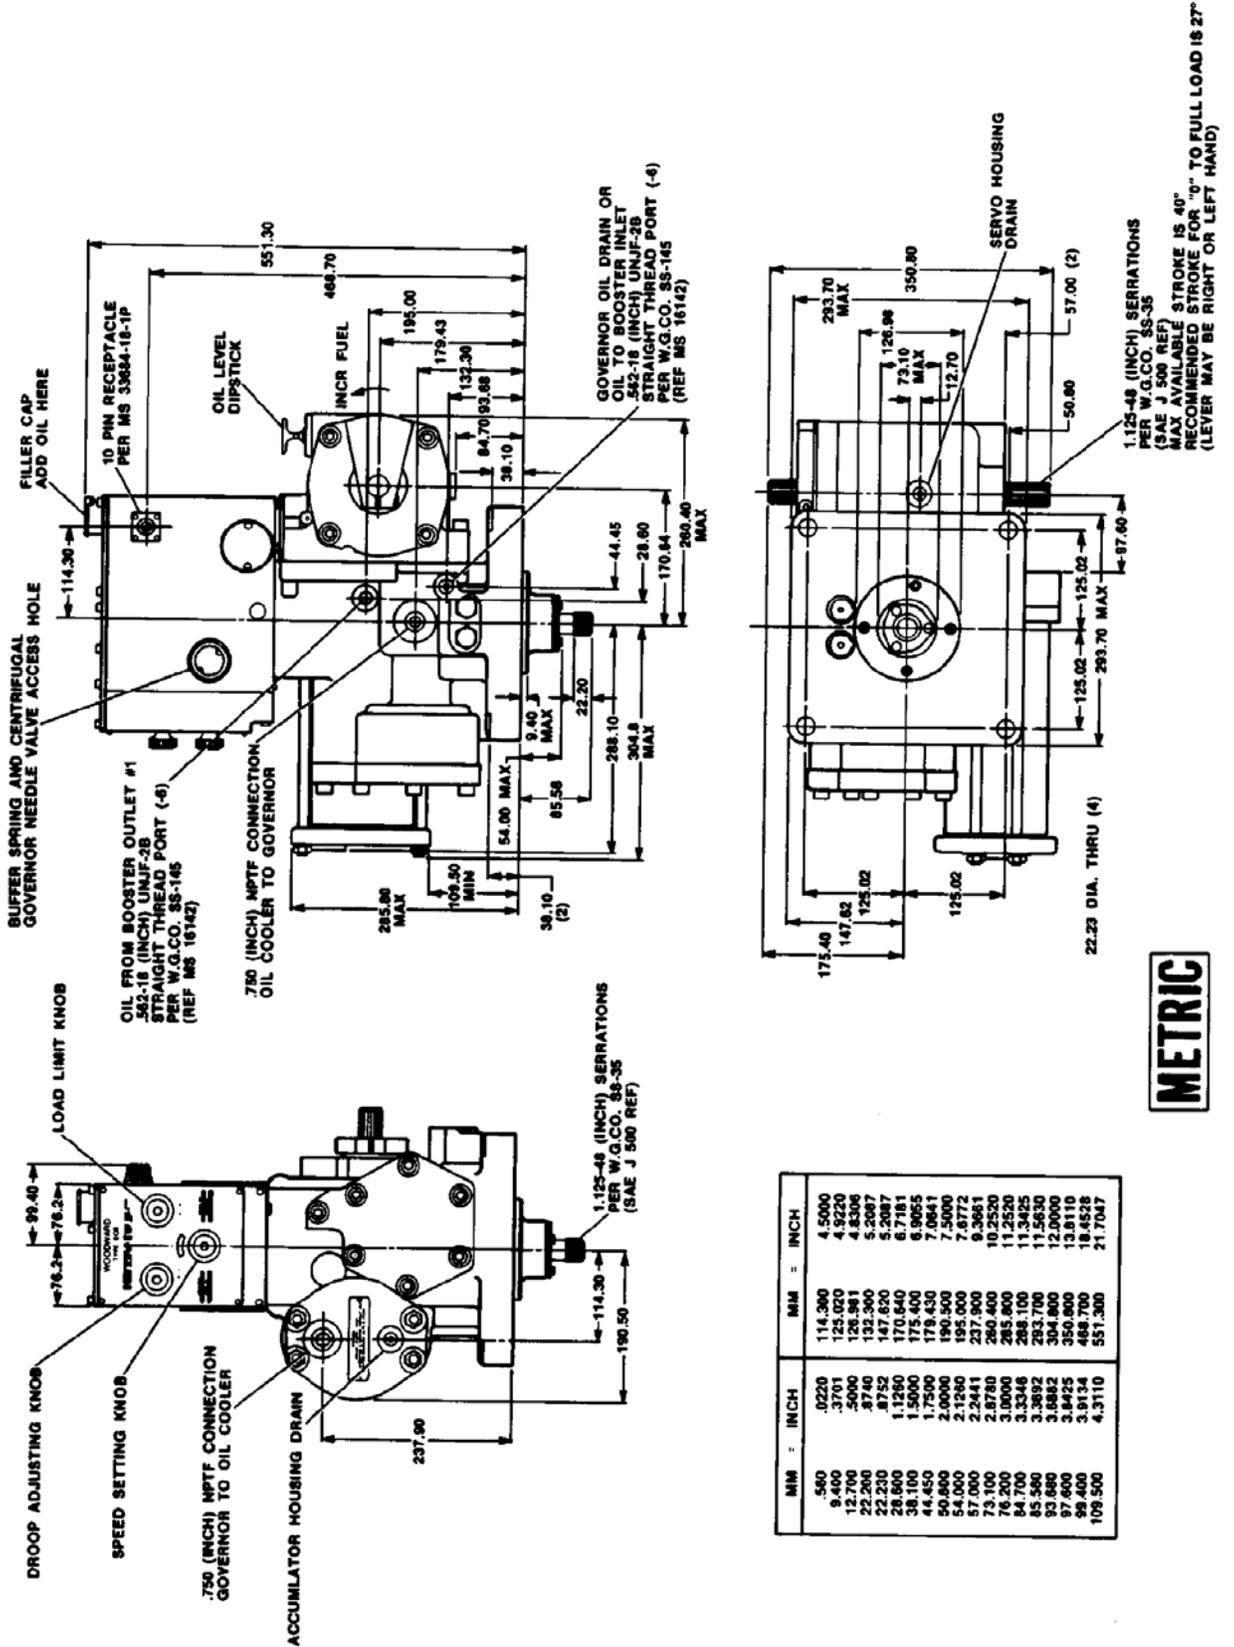

Figure 2-1. Outline Drawing of the EGB-200P Governor/Actuator
This chapter describes receiving, storage, and installation requirements for the EGB-200P/-300P governor/actuator. See outline drawing Figure 2-1.
See Figure 2-1 for (1) overall dimensions, (2) location of installation holes, (3) hydraulic fitting sizes, (4) output and drive shaft dimensions, and (5) adjustment locations.